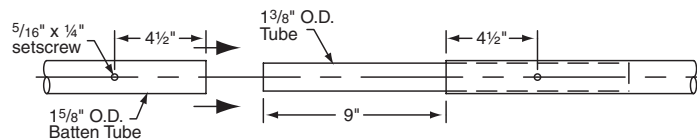

Figure 2
- ① Lay the curtain out with the top of the curtain close to the dangling aircraft cables.
- ② Slide the $1\frac{5}{8}$ " top batten into the top pocket one section at a time, assembling as you go. Use $1\frac{3}{8}$ " x $1\frac{1}{2}$ " tube to connect sections of batten tube. Splice should be matched with equal portions inside each tube that is being connected. Install $\frac{5}{16}$ " x $\frac{1}{4}$ " in predrilled and taped holes. Rotate outer tubes to where setscrews are in line prior to tightening (see Fig. 2).